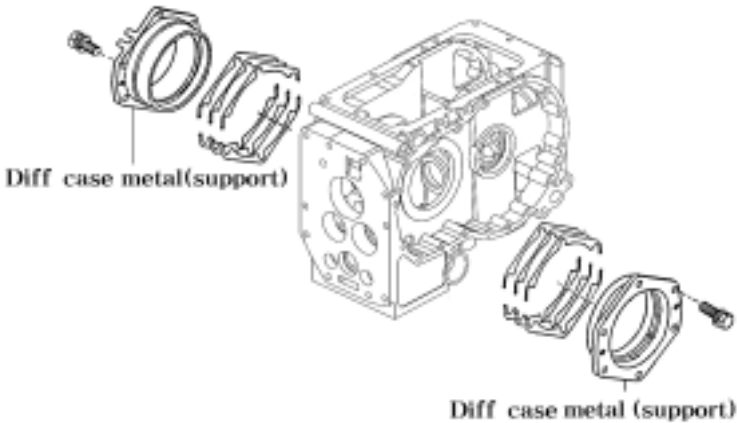

Fig.5-35
h. Backlash adjustment between the drive pinion and the ring pair (Fig 5-35)